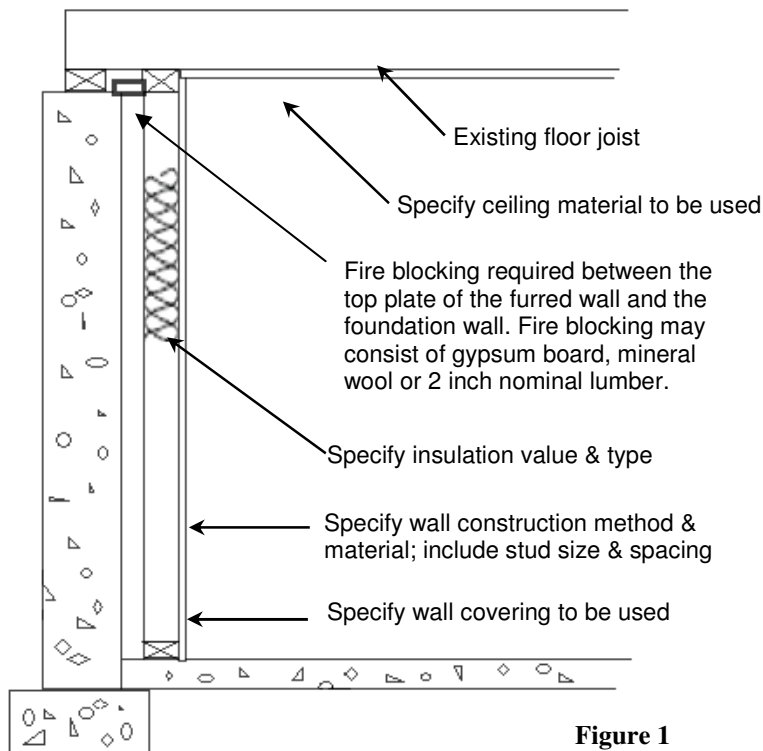

Figure 1
- Two sets of plans, including plan view (see fig.8) and wall detail (see fig.1), drawn to scale(1/4 inch or 1/8 inch equals 1 foot is preferred) are required to be submitted with the application. Plans must provide with sufficient clarity and detail dimensions to show the nature of the work to be performed. The plans must show the size and type of materials to be used. A third set is required if plumbing work to be done. Plumbing plans must be described with a diagram or isometric drawing. *See fig. 8 for example of required floor plans and Fig.5 for plumbing plans.*
at the floor/ceiling level. All penetrations at top plate of wall shall be fire stopped. All concealed spaces shall be fire blocked. *See Fig. 1 and Fig. 7a & 7b*